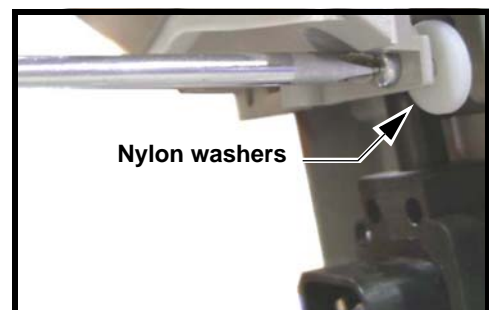

Fig. 29
- 3) Fasten both screws (Phillips #2) near the bottom end. Do not forget to insert the nylon washers between the control box cover and the control box body before fastening (see Fig. 29).